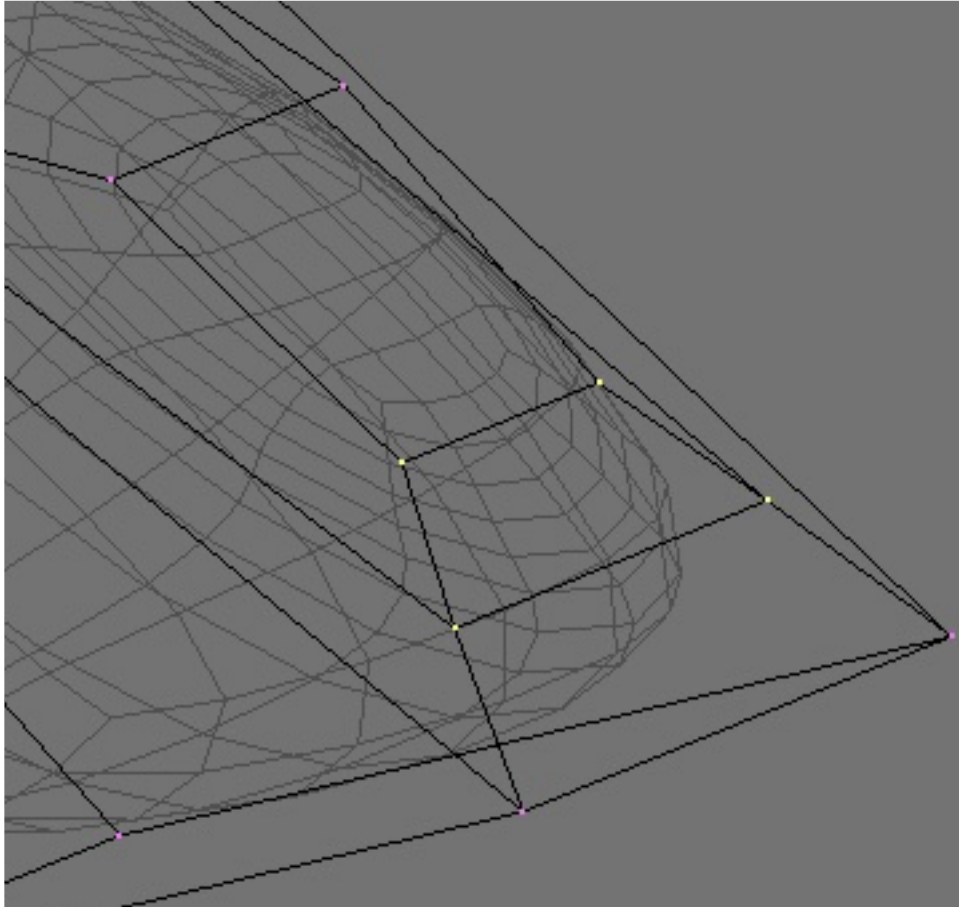

Fig 9. Extrude this face out to create the fingernail. Tweak the shape of the nail to suit the character.
8. Select the front four vertices of the nail and extrude. This creates the nail hanging over the end of the finger. By changing how this looks you could make all kinds of different character hands. For example, keep extruding out and scaling down to make sharp claw like finger nails. Just continue tweaking until you find something that you like. See Figure 9.